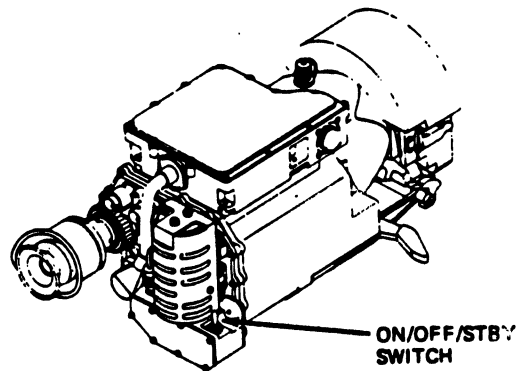

Fig 2-39. ON/OFF/STBY switch.
Step 12. Set the ON/OFF/STBY switch to OFF (fig 2-39).